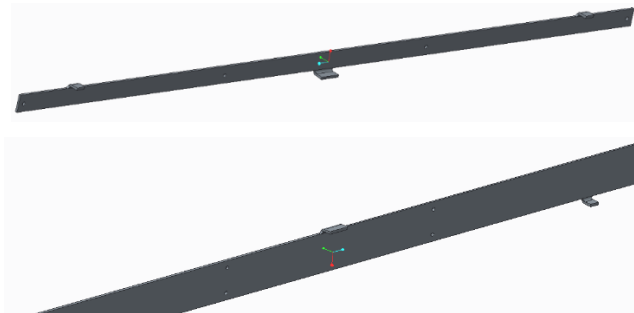

Figure 1 Jigs simplify drilling holes for the bumpers.
3. Refer to Figures 1 to 6. Drill holes for the rubber bumpers.
- c. **Indicated in red in Figure 1:** The transverse members (perpendicular to the cylinders) on the upper frame do NOT require the rubber bumpers.
- d. **Indicated in dark blue in Figure 1:** The middle section of frame is a “back-to-back” channel. Drill holes as indicated on the jig.
- e. **Indicated in yellow in Figure 1:** Drill holes for the rubber bumpers using the jig.